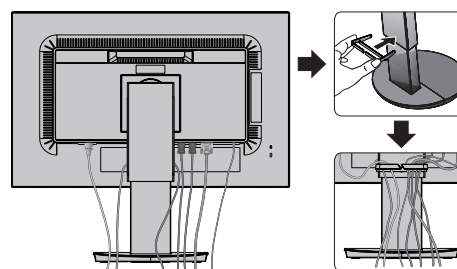

Figure C.2
5. Place the cable holder onto the stand (**Figure C.2**).